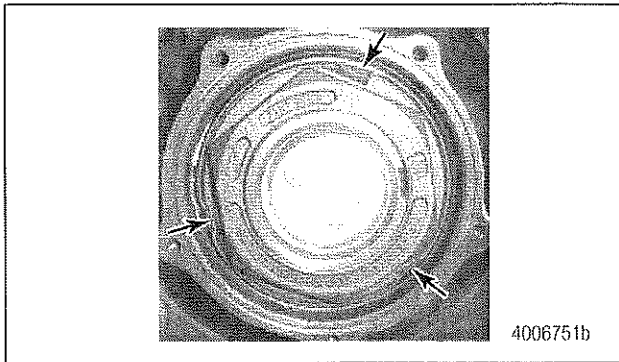
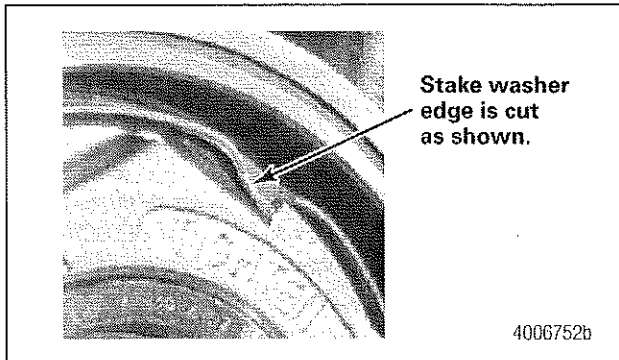

Figure 12
Figure 13
10. Use a hammer and staking tool (part number AM21225831) to stake the stake washer to the spindle nut in **three** positions. Figure 12 and Figure 13.